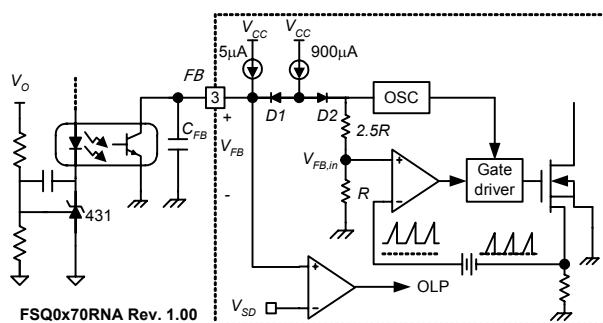

Figure 14. Pulse Width Modulation Circuit
2. Feedback Control: The 700V FPS series employs current-mode control, as shown in Figure 14. An optocoupler (such as the H11A817A) and shunt regulator (such as the KA431) are typically used to implement the feedback network. Comparing the feedback voltage with the voltage across the R_{sense} resistor of SenseFET, plus an offset voltage, makes it possible to control the switching duty cycle. When the shunt regulator reference pin voltage exceeds the internal reference voltage of 2.5V, the opto-coupler LED current increases, the feedback voltage V_{FB} is pulled down and thereby reduces the duty cycle. This typically happens when the input voltage increases or the output load decreases.
4.3 Over-Voltage Protection (OVP): In the event of a malfunction in the secondary-side feedback circuit, or an open feedback loop caused by a soldering defect, the current through the opto-coupler transistor becomes almost zero (see Figure 14). V_{FB} climbs up in a similar manner to the overload situation, forcing the preset maximum current to be supplied to the SMPS until the overload protection is activated. Because excess energy is provided to the output, the output voltage may exceed the rated voltage before the overload protection is activated, resulting in the breakdown of the devices in the secondary side. To prevent this situation, an Over-Voltage Protection (OVP) circuit is employed. In general, V_{CC} is proportional to the output voltage and the FPS uses V_{CC} instead of directly monitoring the output voltage. If V_{CC} exceeds 19V, the OVP circuit is activated, resulting in termination of the switching operation. To avoid undesired activation of OVP during normal operation, V_{CC} should be designed to be below 19V.